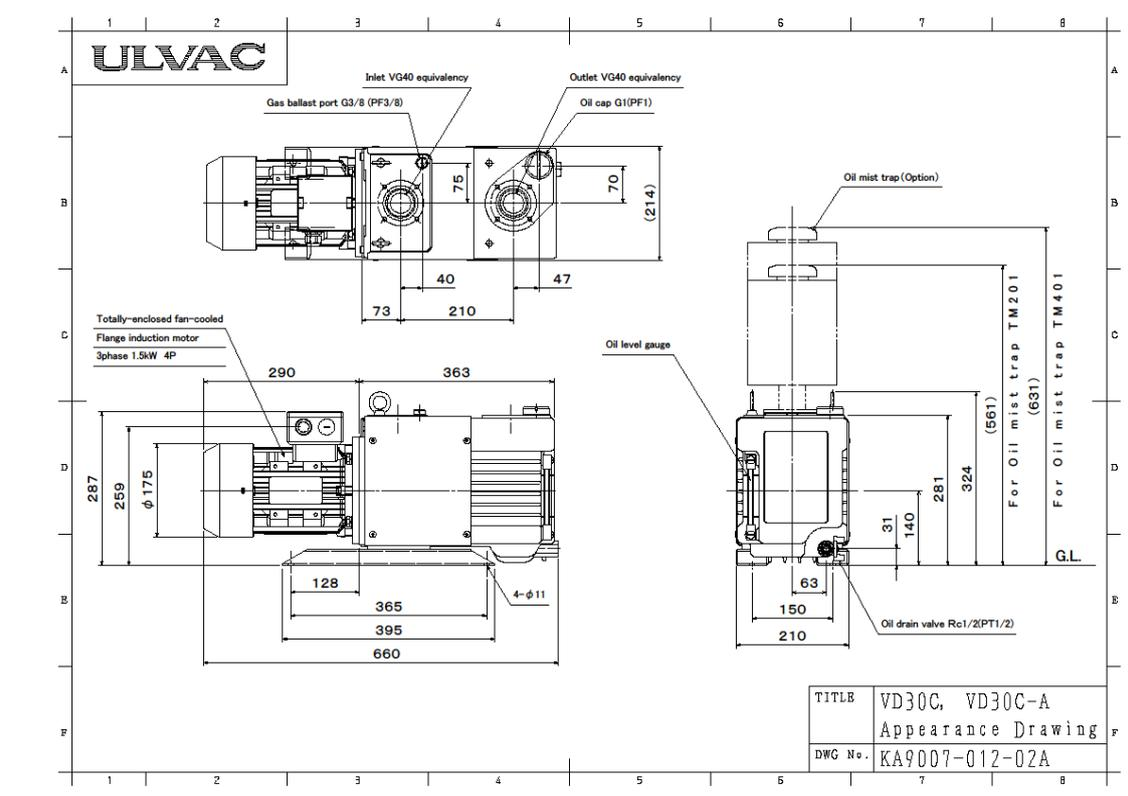
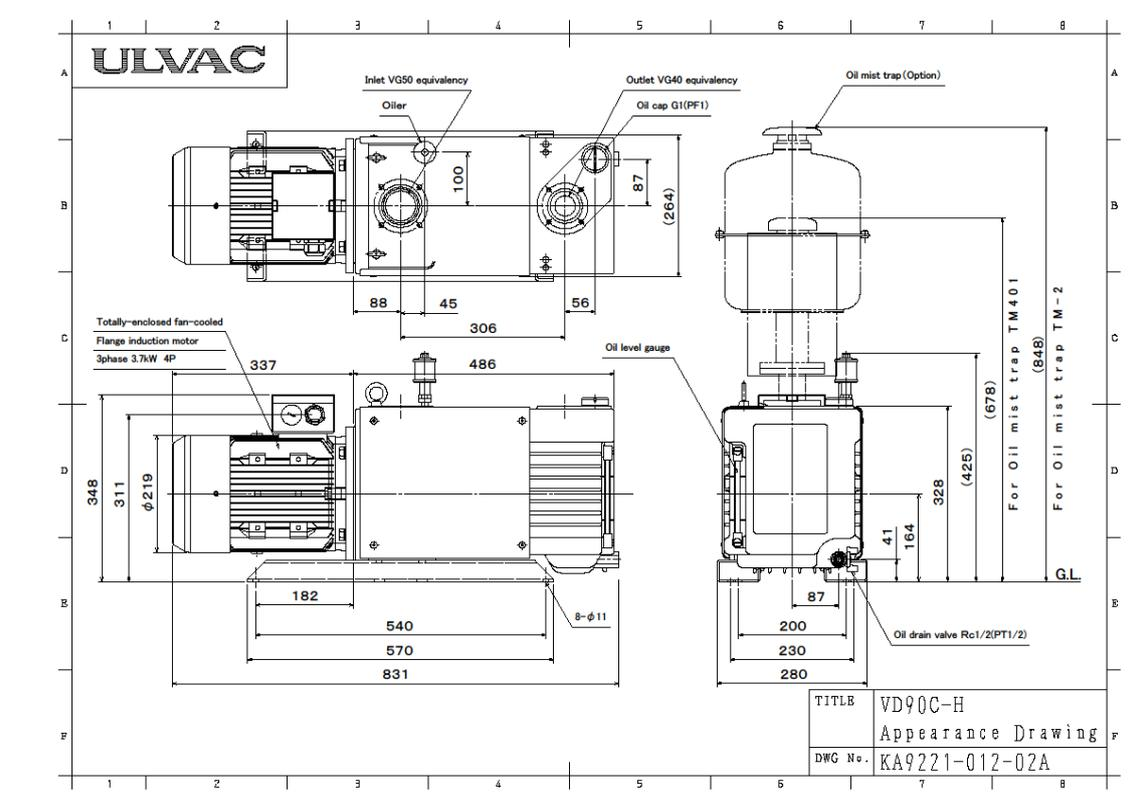

Fig. 4 Dimensional drawing VD30C, VD30C-F, VD30C-N
Fig. 11 Dimensional drawing VD90C-H
- ① Operating the Pump on laying it down or putting it reverse would give damage to the Pump. Ensure to install the Pump horizontal to the ground level as illustrated on the “Fig. 4 to Fig. 11”.
- ② By the form of the rack, the Pump may cause resonance, and their vibration may become big. On this case, sandwich the protection against vibration rubber between a pump and rack.